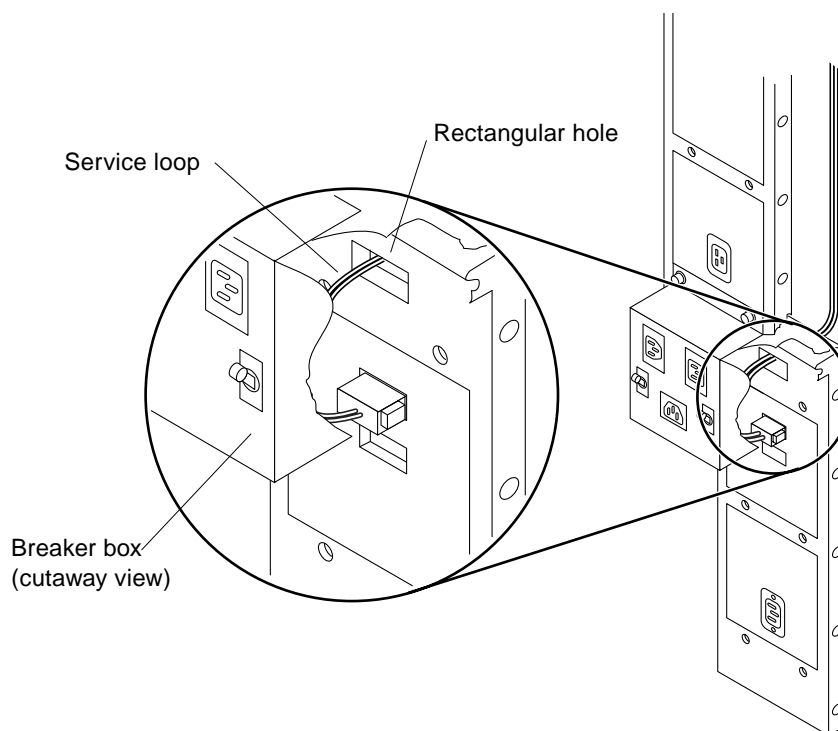

Figure 2-15 Plugging the Filter Cable into the Bottom Power Supply
Form a service loop in the cable and plug the connector into J2 (the top connector) on the power supply. See Figure 2-15.
2. Replace the power breaker box. See Figure 2-15.
c. Insert the filter cable service loop into the hole in the back side of the breaker box (Figure 2-15).